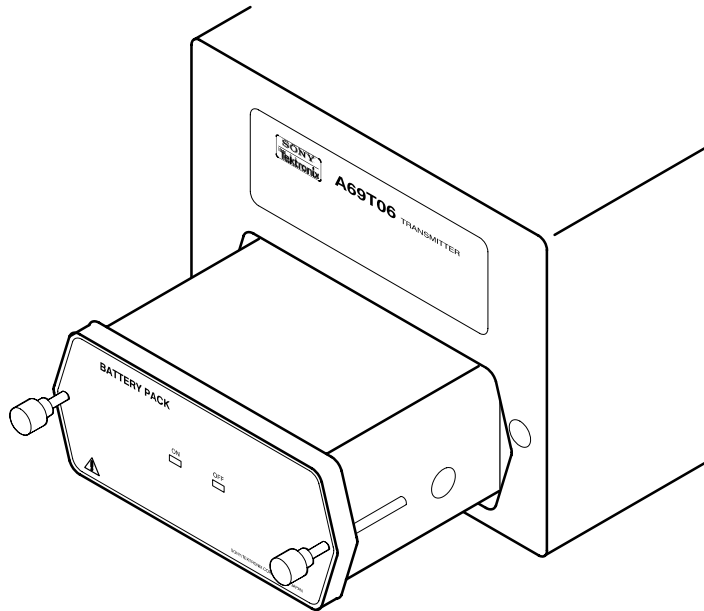

Figure 1: A69T06 Battery Removal
3. Remove the battery pack from the A69T06 by unscrewing the two thumb-screws on the front of the battery pack, as shown in Figure 1. Pull the battery pack completely out of the A69T06.